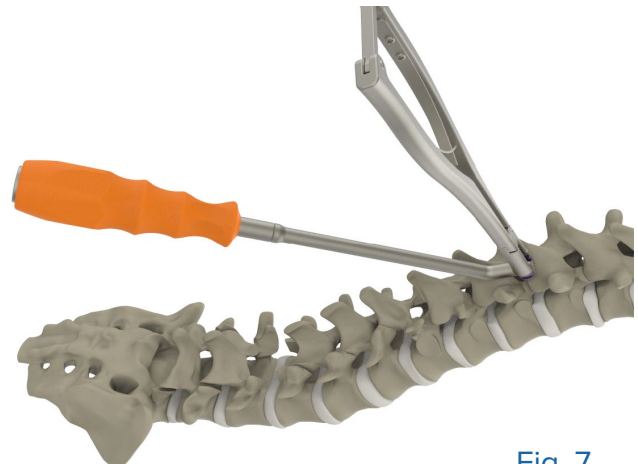

Fig. 7
- Attach the appropriate hook to the hook inserter. Place the hook in desired location (Fig 7).
- A hook impactor is provided to assist with hook placement (Fig. 7).